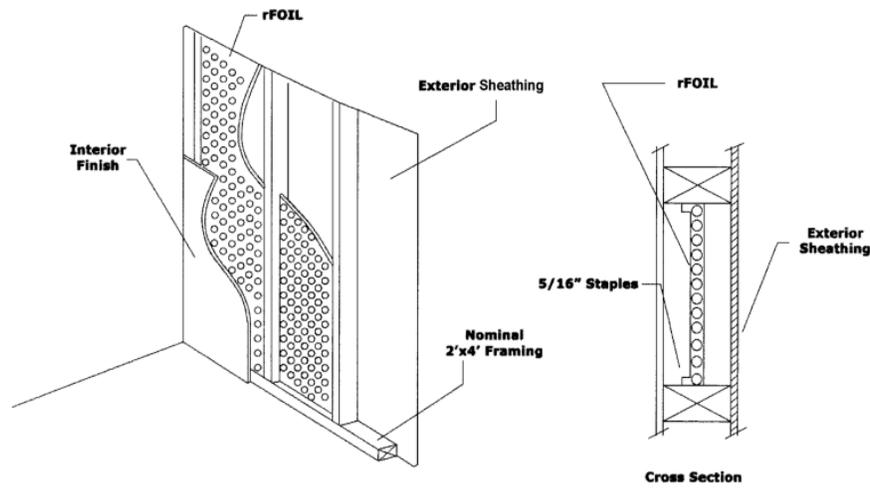

FIGURE 1—WALL CAVITY APPLICATION
**4.1.2.1 Wall Cavity Application:** rFOIL™ insulation is placed on the inside of the stud cavity and stapled at the midpoint of the 31/2-inch (89 mm) side of 2-by-4 wood studs spaced at 16 inches (406 mm) on center. The insulation forms two 1/8-inch-deep (41.3 mm) air spaces within the cavity. The exterior surface is covered with 1/2-inch-thick (12.7 mm) plywood, complying with and attached in accordance with the applicable code. The interior surface is covered with minimum 1/2-inch-thick (12.7 mm) gypsum wallboard complying with ASTM C36, attached in accordance with the applicable code. Inside surface-to-surface thermal resistance of the assembly is noted in Table 1 of this report. Thermal resistance of the insulated cavity described in this section is noted in Table 2 of this report. See Figure 1 of this report for an illustration of the assembly.